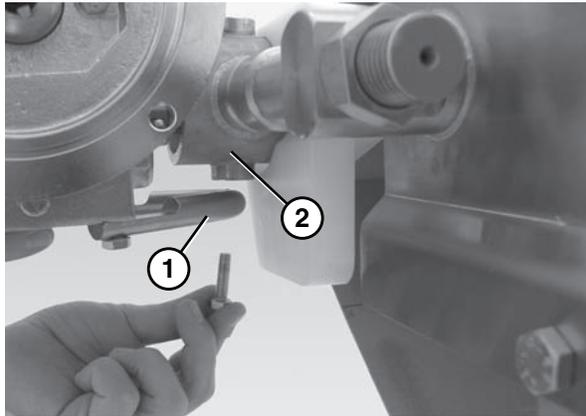

Figure 6
4. Attach the lower gearhead mounting bar (Figure 6, item 1) to the motor mounting bracket (Figure 6, item 2).